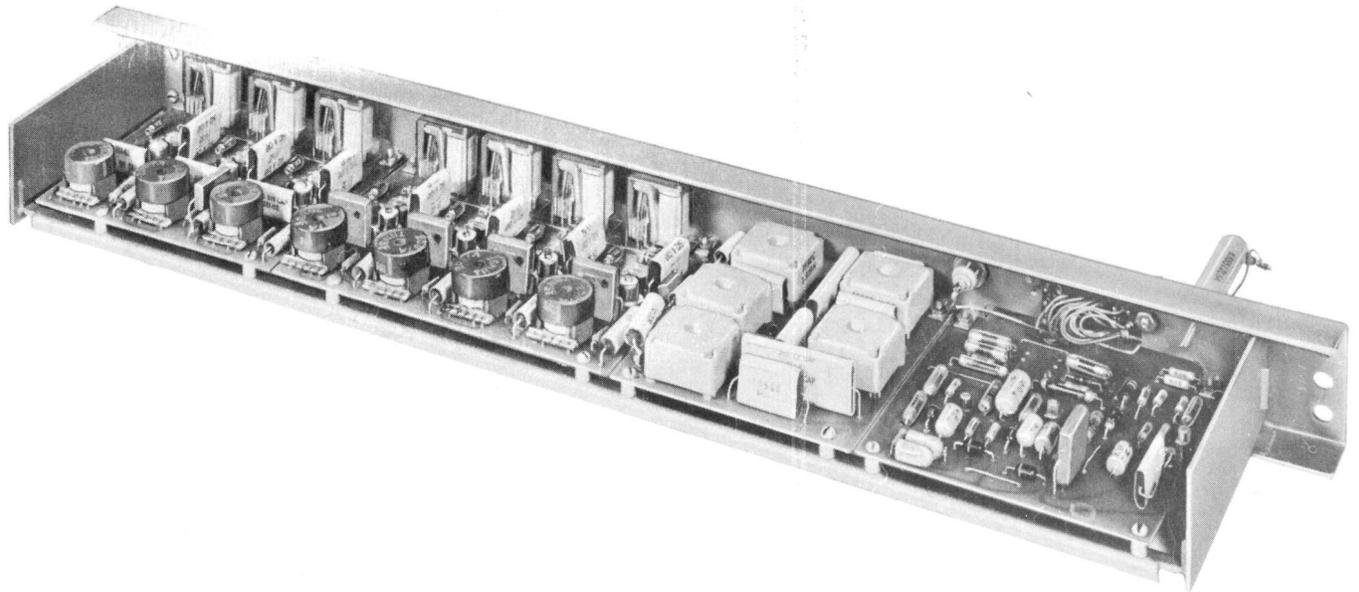

Fig. 10—J58844A, List 1 TOUCH-TONE Calling Receiver, Type C1, Front View (Cover Removed)
- Two J58844A, List 1, receivers (type C1) (Fig. 10)
- (2) When internal application of TOUCH-TONE calling is required for cabinet assemblies, Lists 8 (MD) and 10, two J58844A, List 1 (type C1) receivers must be ordered separately and installed in mounting plate positions 13 and 14 on Slide 1.
- (3) When external application of TOUCH-TONE calling is required, the following equipment